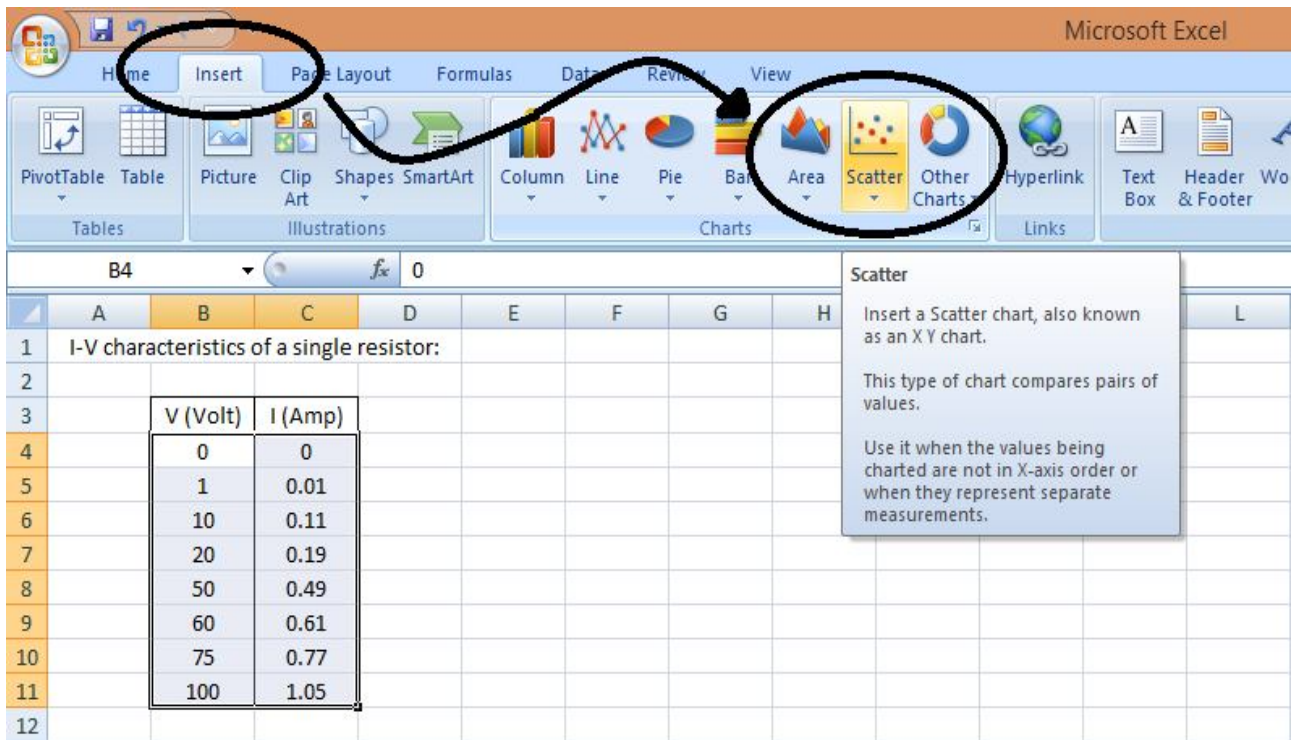

Figure 2
2. Now select the cells containing the data to be plotted and click on "Insert" option in the tool bar and focus on the "Charts" sub-option. You will get various options to insert, viz. bar graphs, pie charts, etc. However, for most of the cases "Scatter" plots will be used. Refer Figure 2.